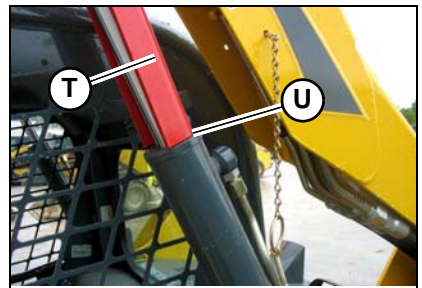

Figure 12 – Lift Arm Support Engaged
7. Use the lift control to raise the lift arm until lift arm support (T, Figure 12) drops over the end of the lift cylinder and around the cylinder rod.
8. Slowly lower the lift arm until the free end of the support device contacts the top end of the lift cylinder (U).